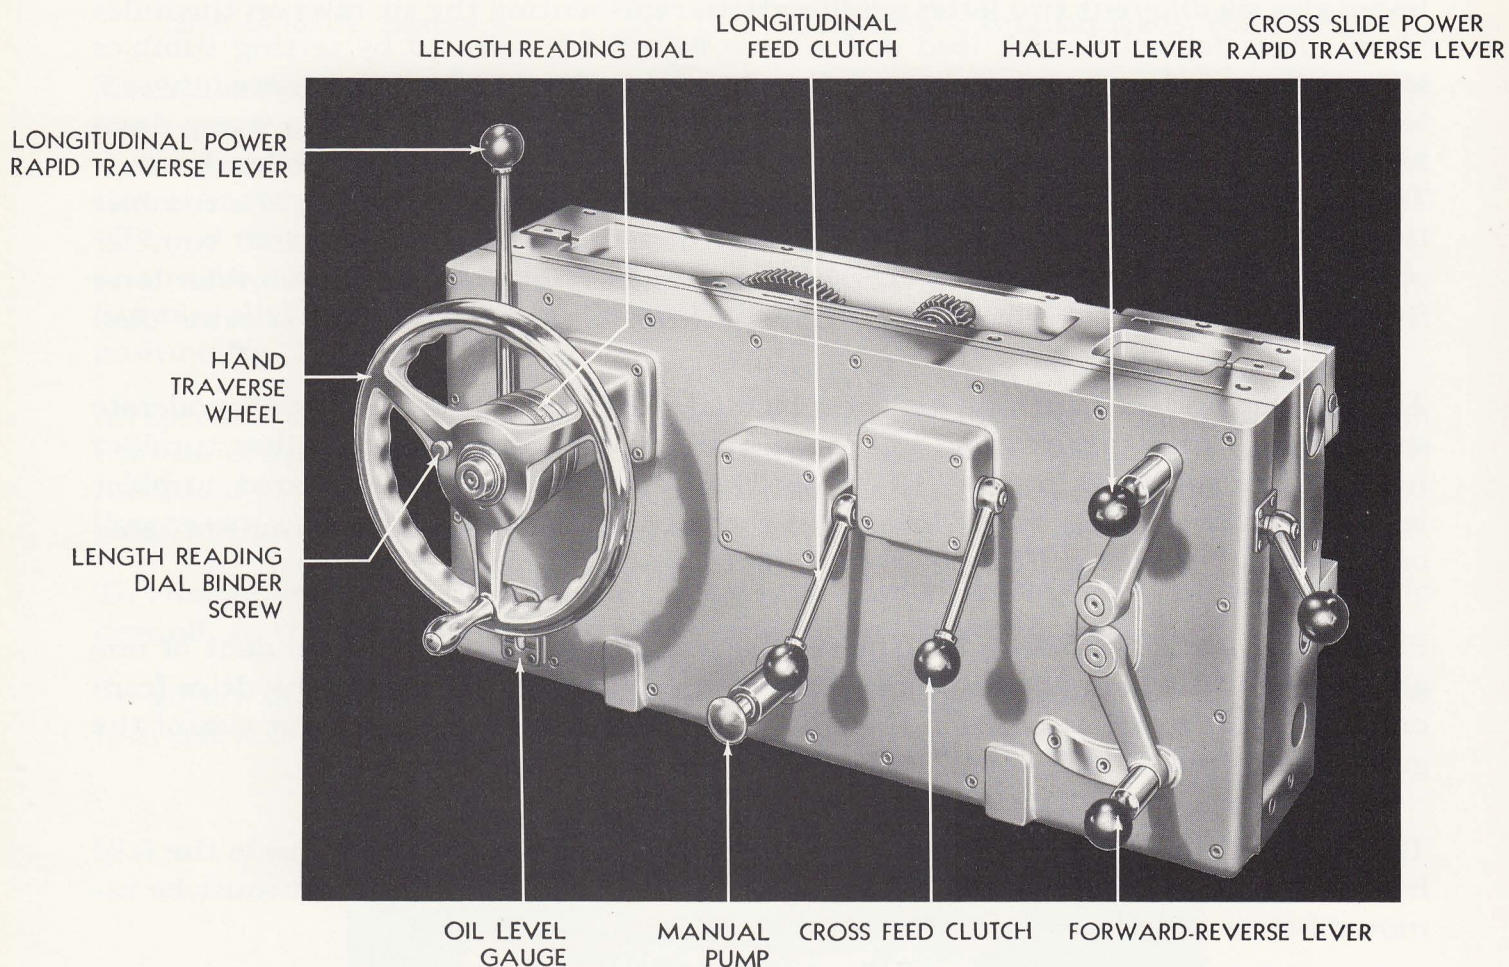
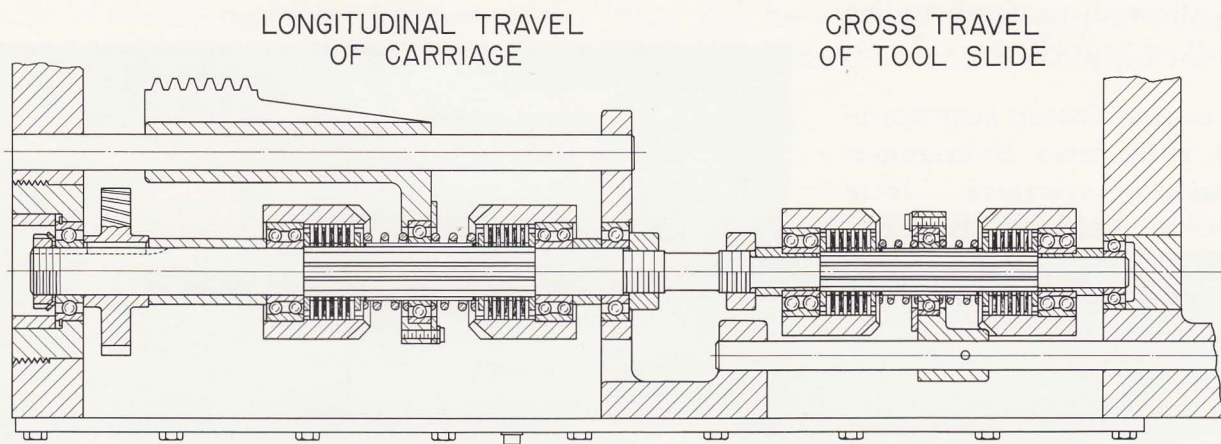

Figure No. 9—Front View of Apron
Figure No. 11—Diagram of Power Traverse Safety Clutch Unit
**APRON**—The apron, Figure No. 9, is driven by either the feed rod or the leadscrew, depending upon whether the double-bevel pinion or the half-nuts are engaged. The double-bevel pinion is actuated by the forward-reverse lever on the front of the apron and controls the direction of feeding, both longitudinal and cross. The half-nuts are engaged by the half-nut lever, but the direction of travel is controlled by the direction of rotation of the leadscrew. These two levers are interlocking and one must be in its
**4-WAY POWER RAPID TRAVERSE**—When the 4-way power rapid traverse is furnished two independently operated directional levers are used. The carriage longitudinal traverse is actuated by a convenient control lever at the left side of the apron, while the control lever for the tool rest cross travel is located at the right side of the apron, figure No. 9. These levers are separated to eliminate the possibility of engaging the wrong traverse and also to permit both traverses being operated simultaneously. A further safety feature is provided by spring actuated safety clutches which control the traverses. These disc clutches are engaged and disengaged by spring action applied by the actuation of the control levers, as a result the traverses operate only while the operator holds the levers in operating positions. Should the carriage or tool rest be accidentally run into an obstruction the clutches will simply slip. See Figure No. 11.